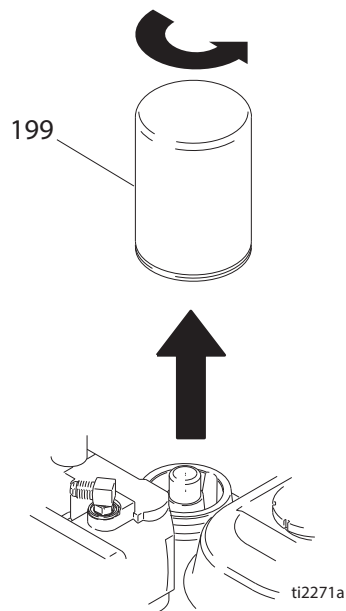

Fig. 8
- 1 Fig. 8. Place drip pan or rags under sprayer to catch hydraulic oil that drains out.
- 2 Remove drain plug (195). Allow hydraulic oil to drain.
- 3 Unscrew filter (199) slowly - oil runs into groove and drains out rear.